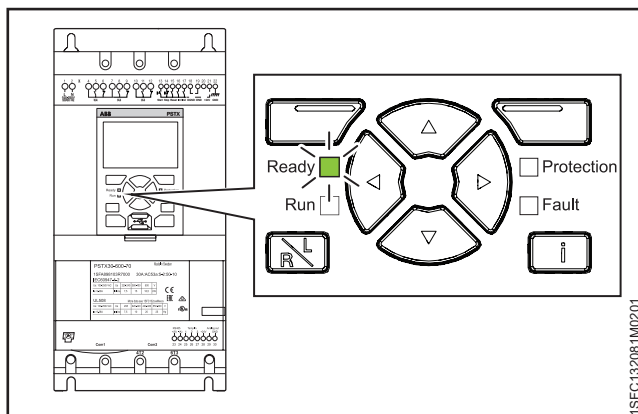

Figure 2.6
- If the max nbr of starts per hour function is enabled and set to stop manual or stop automatic, the remaining time to start counter (which can be shown in the HMI homeview) has to be zero. Otherwise the ready LED is flashing, see **Figure 2.6**.